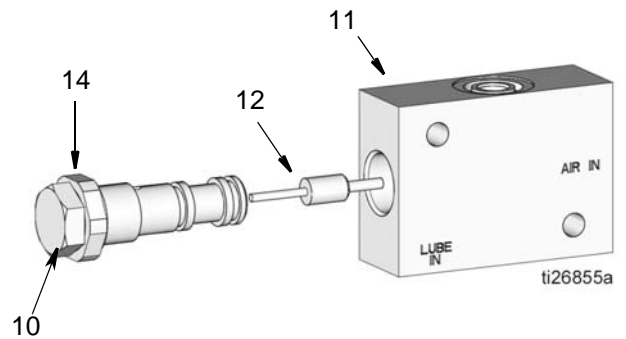

FIG. 8
- Remove the spray valve piston assembly (10, 12, 14) (FIG. 8). Separate all parts.